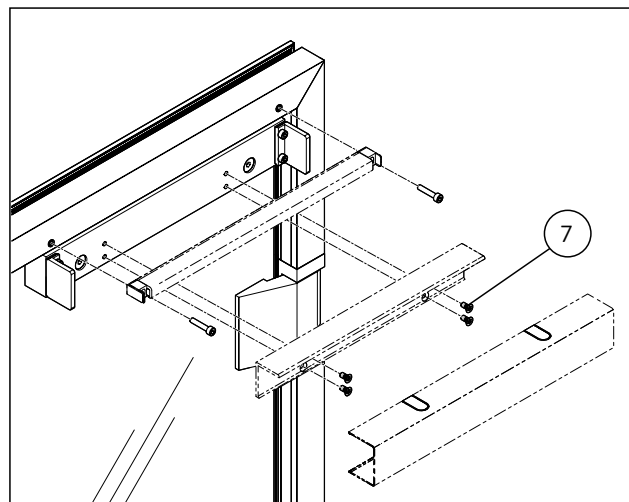

Abb. 14 Mount the door closer on the screw-on plate
- Connect the door closer with the screw-on plate and the door frame according to the enclosed TS 97 mounting instructions (Abb. 14).